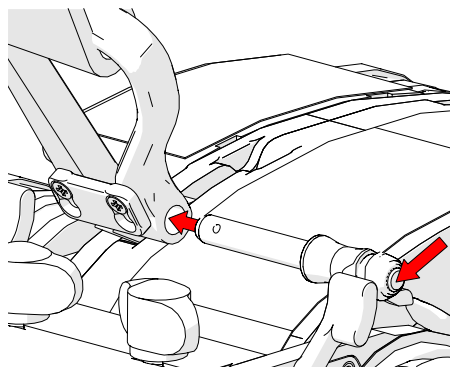

Fig. 80 - Insert pin
4. Align the tether attachment point and shackle. Insert the pin while pressing the pin's release button (Fig. 80).